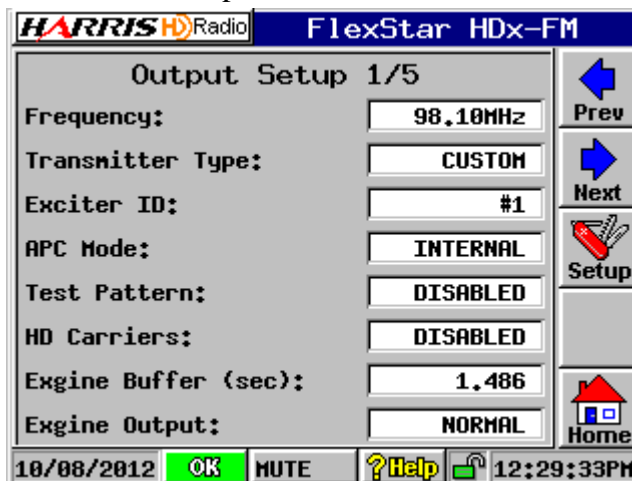

Figure 1-5 Output Setup Screen
**STEP 3:** On the Flexstar goto SETUP>OUTPUT SETUP 1/5. Set the Engine Buffer (sec) to 1.486 per Figure 1-5 .